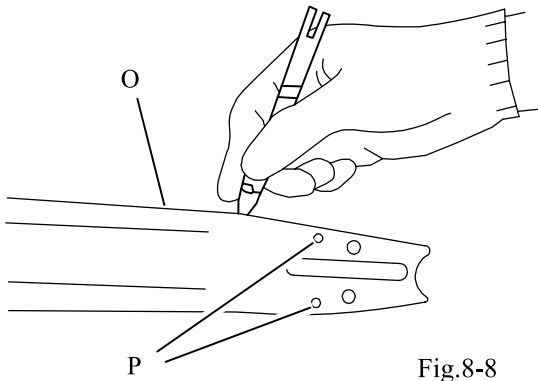

Fig.8-8
4. Using the optional depth gage, clean the oil filler hole and the slot (O) on the guide bar (P). (Fig.8-8)